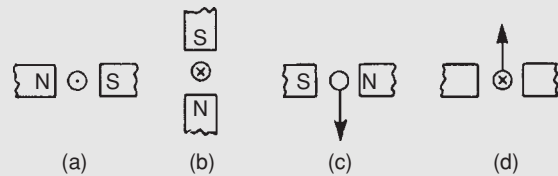

Figure 8.15
**Problem 5.** With reference to Fig. 8.15 determine (a) the direction of the force on the conductor in Fig. 8.15(a), (b) the direction of the force on the conductor in Fig. 8.15(b), (c) the direction of the current in Fig. 8.15(c), (d) the polarity of the magnetic system in Fig. 8.15(d).